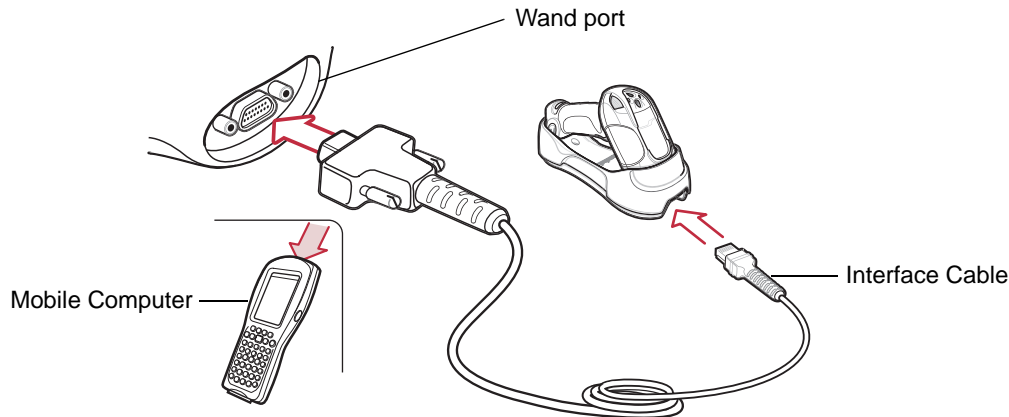

Figure 9-1 Wand Emulation Connection
- ✓ **NOTE** Interface cables vary depending on configuration. The connectors illustrated in Figure 9-1 are examples only. The connectors may be different from those illustrated, but the steps to connect the scanner cradle remain the same.